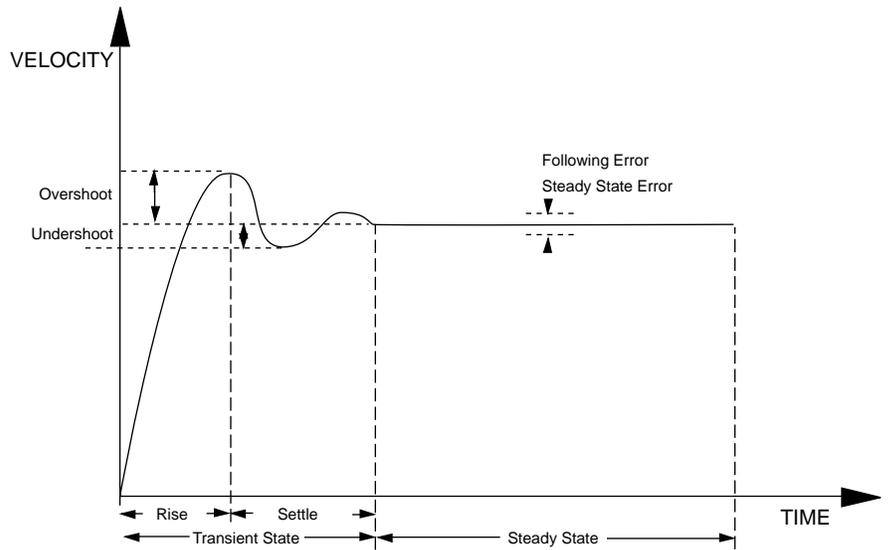

Figure 9.3 Signal Nomenclature
9. Increase the K_p gain while monitoring the signal on the scope. The K_p gain should be adjusted until the desired rise time is achieved, with no overshoot. Refer to Figure 9.3.